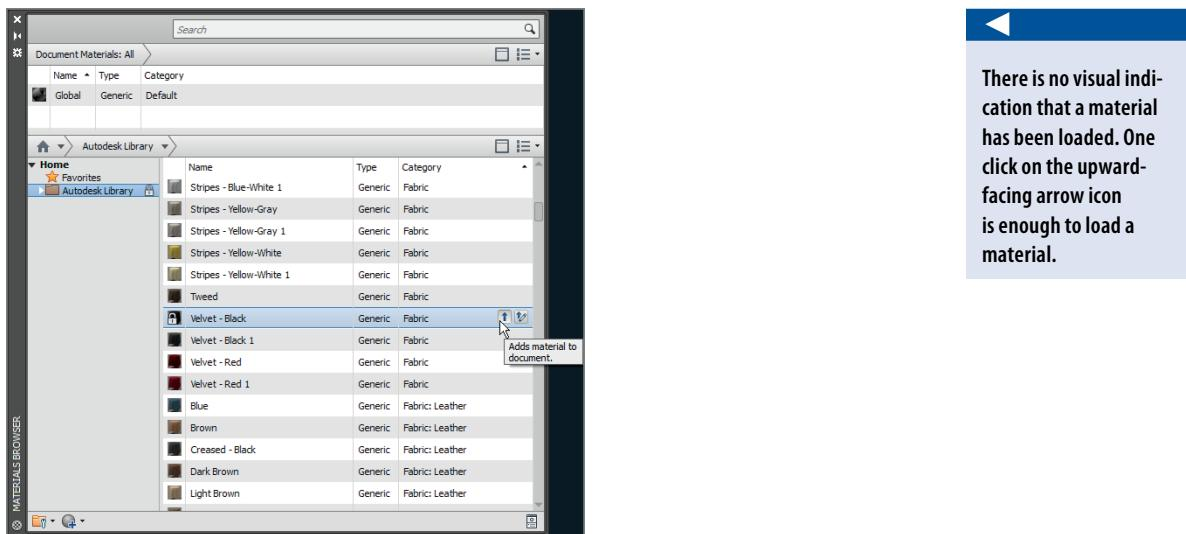

FIGURE 18.2 Loading a material from the Autodesk library into the document
2. Select the ribbon's View tab, and click the Materials Browser toggle in the Palettes panel. In the Materials Browser palette that appears, expand the name column so you can read the material names. Click the Category column header to sort the list by category. Scroll down and locate the Fabric category in the Autodesk library. Click the upward-facing arrow icon in the Velvet – Black row to load this material into the document (see Figure 18.2).